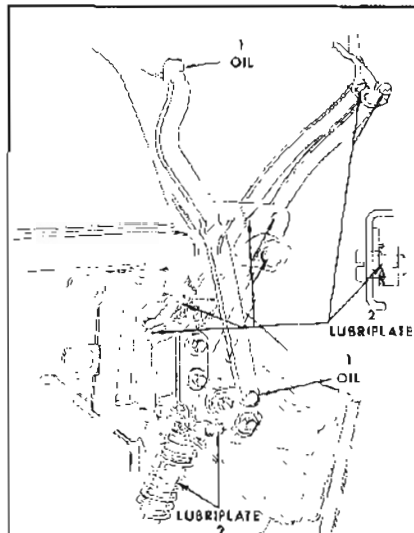

Figure 1-16—Convertible Top Linkage Lubrication
9. Convertible Top Mechanism - Apply a sparing amount of dripless oil to points indicated by "1" and Lubriplate or equivalent to those points indicated by "2" in Figure 1-16.